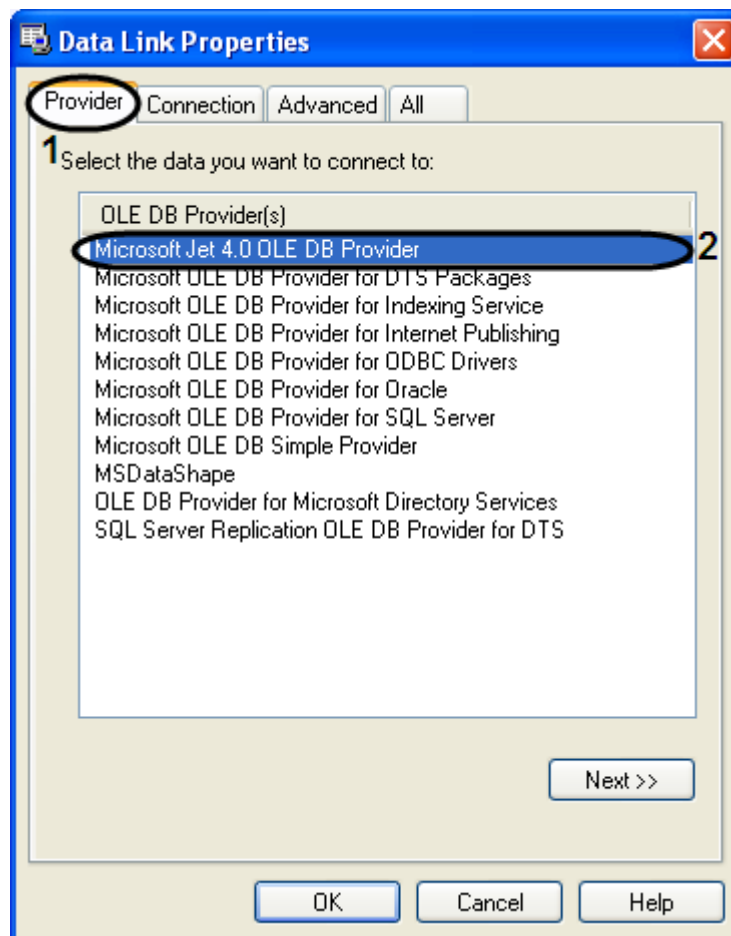

Fig. 9.3-5 Setting up the data provider
10.1. Got to the Provider tab (Fig. 9.3-5).